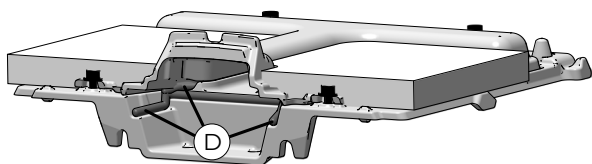

Fig. 7.12
7	Pour new cement (D) into the groove (Fig. 7.12)